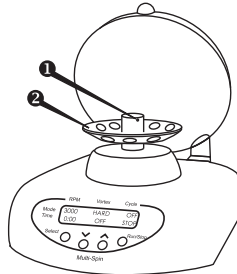

Fig.1 Rotor replacement
To change a rotor (Fig.1/②): insert the provided pin into the opening in the fixation head (Fig.1/①). Hold the rotor with one hand and turn the fixation head (using the pin as a lever) counter clockwise to set rotor free. Change the rotor and fix it properly putting back the fixation head.